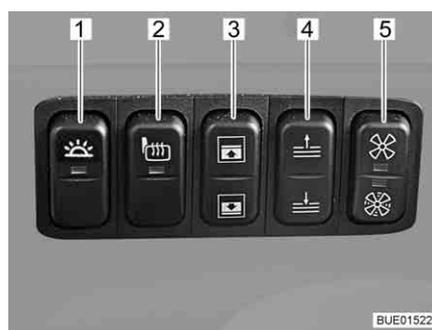

Fig. 33 Grand Panorama switch panel
- Press the switch (Fig. 33,1) on the switch panel.
- Press the switch (Fig. 33,1) on the switch panel again.
- Press the switch (Fig. 33,2) on the switch panel. The switch indicator lamp shows it is in operation.
- Press the upper or lower half of the switch (Fig. 33,4) on the switch panel. The sun visor moves upwards or downwards whilst the button is pressed.
- Press the upper or lower half of the switch (Fig. 33,3) on the switch panel. The windscreen shade moves upwards or downwards whilst the button is pressed.
- Press the upper half of the switch (Fig. 33,5) on the switch panel. A fan blows heater air from the living area heater onto the windscreen (level 1).
- Press the lower half of the switch (Fig. 33,5) on the switch panel. A fan blows heater air from the living area heater onto the windscreen (level 2).